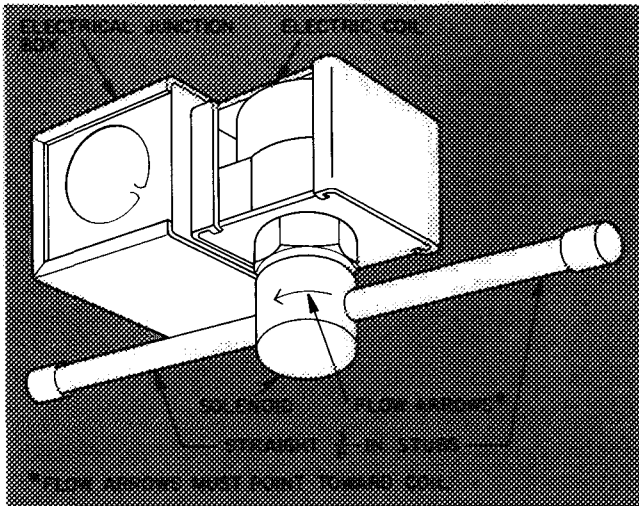

Fig. 4 — Solenoid Installation
See Fig. 4 and install as follows:
3. Connect solenoid to tube assembly, making sure solenoid flow arrows point towards indoor coil. Mount solenoid in any position *except* valve body at top and electric coil at bottom (see Fig. 4).